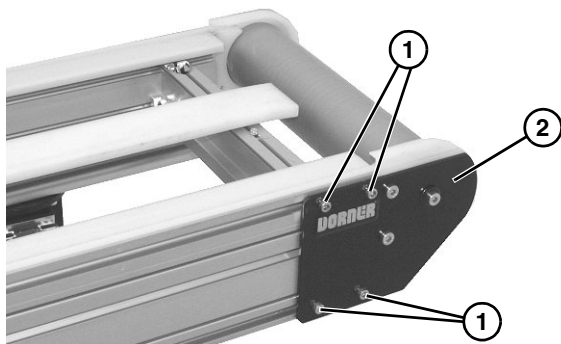

Figure 34
2. On one side of conveyor, loosen the four socket head screws (**Figure 34, item 1**). Repeat on opposite side.
3. Remove idler tail assembly (**Figure 34, item 2**).